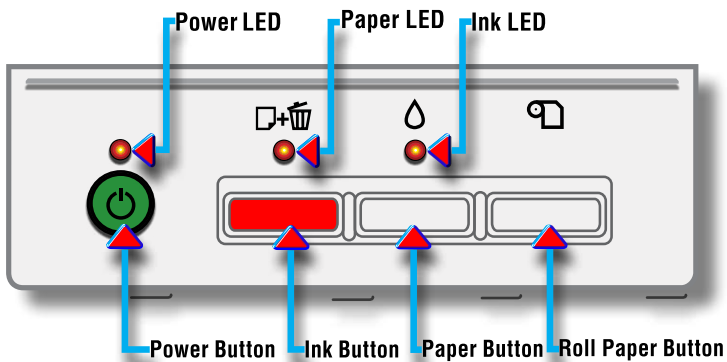

Figure 4
2. Turn **Printer** on, (Figure 2), lift lid, (Figure 3), and press **Cartridge Replacement Button**. (In Red, “Ink Button”, Figure 4).